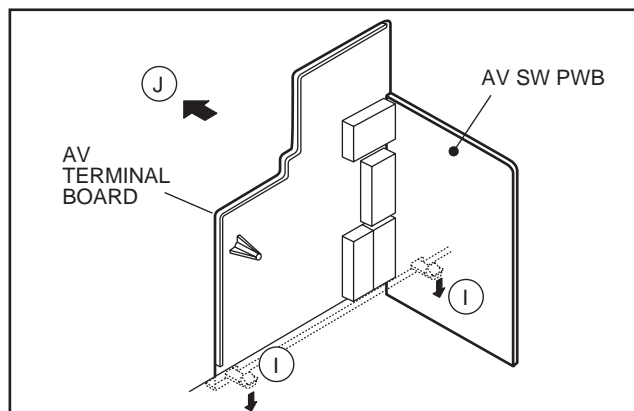

Fig.3
- (2) Remove the 3 claws [I] under the CHASSIS as shown in Fig. 3
- (3) Remove the AV TERMINAL BOARD slightly in the direction of arrow [J] as shown in Fig. 3.